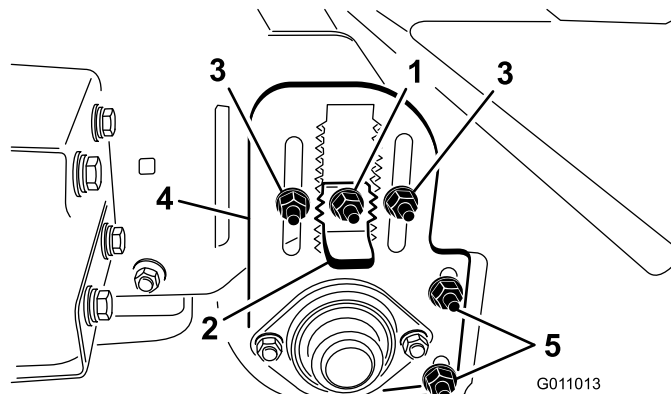

Figure 20
3. Loosen the locknut on the height adjustment key (Figure 20) so it can be pulled out approximately 13 mm (1/2 inch).
4. Loosen the roller-height adjustment locknuts (Figure 20).
5. Pull out the height-adjustor key and move the rear roller up or down by sliding the roller-height adjusting plate to the desired height (Figure 20).
Check and ensure the roller scraper (Figure 20) is adjusted with a 2 mm (1/16 inch) clearance between the scraper and